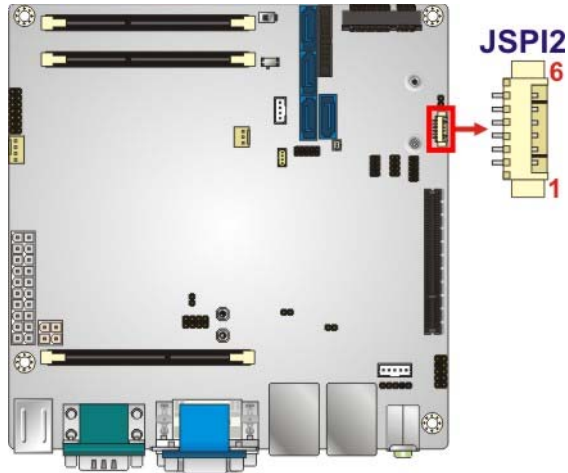

Figure 3-29: EC SPI Flash Connector Location
3.2.27 SPI Flash Connector (EC)
- CN Location:** See **Figure 3-29**